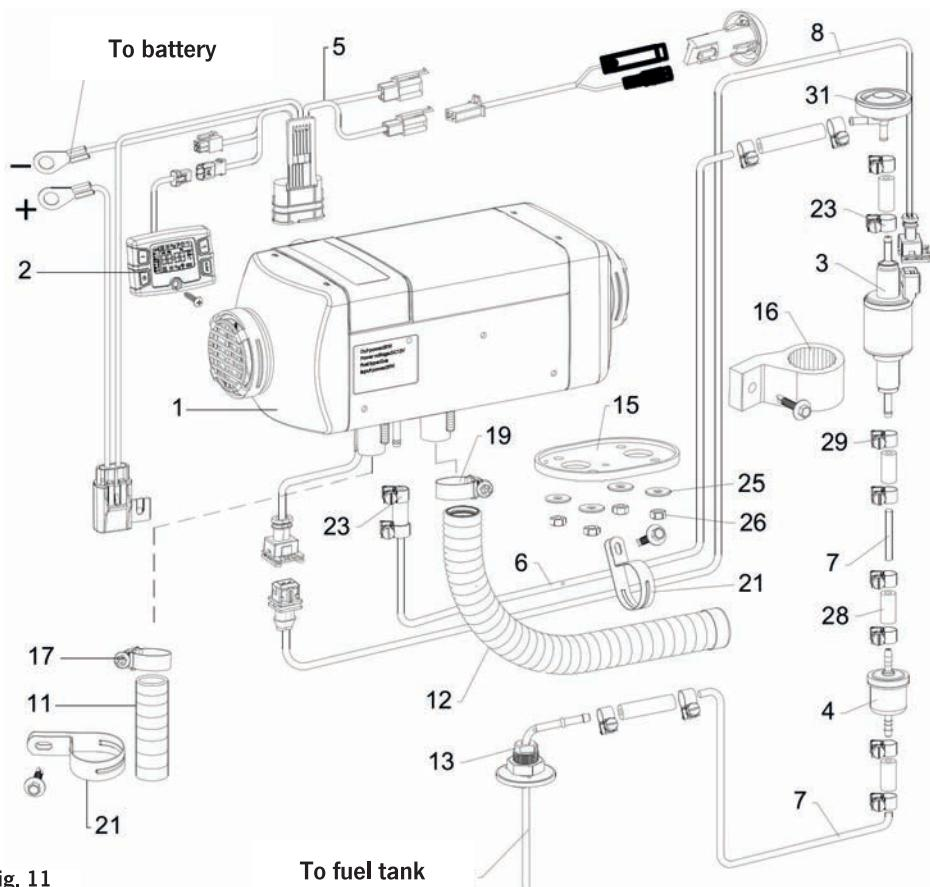

Fig. 11
26. VanHeat 2.0-DH | Product information| Spare parts list (See Fig. 11)